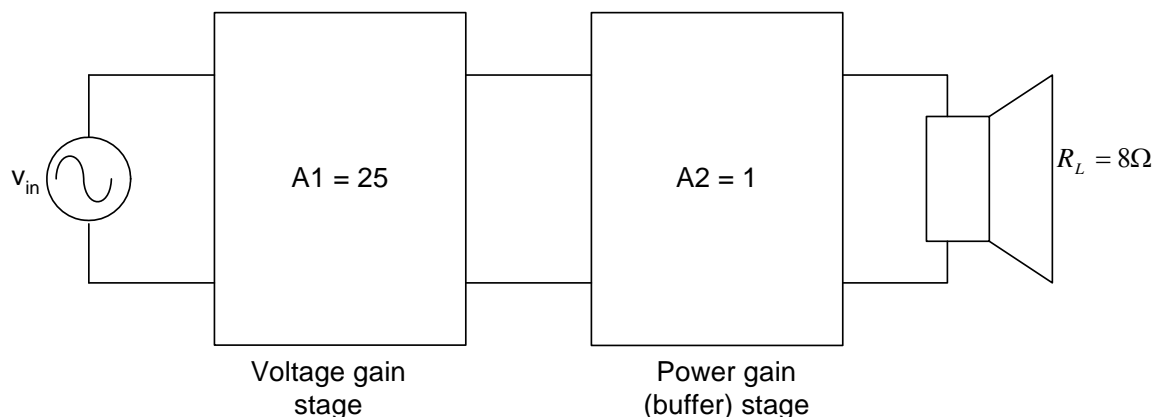
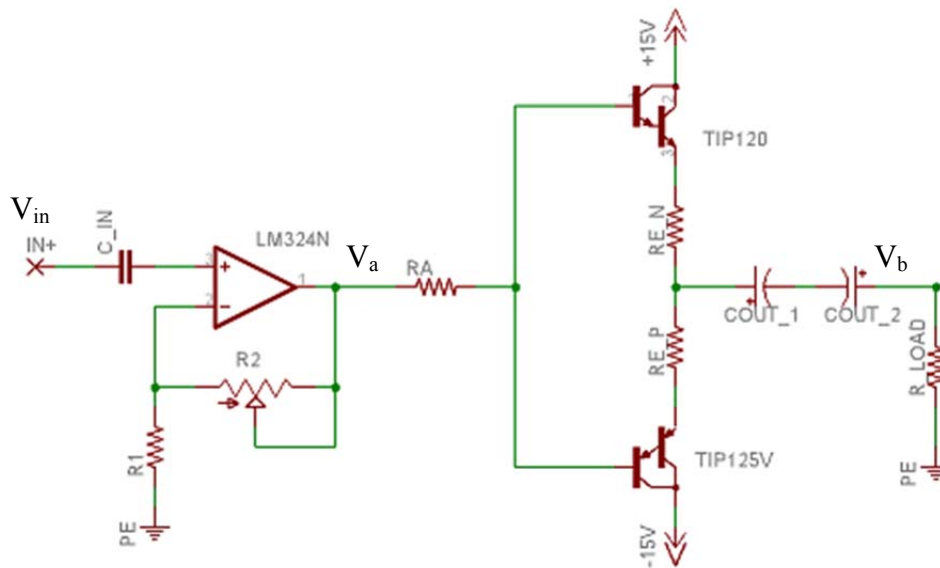

Figure 1: Two-stage audio amplifier
Figure 3: Class B audio amplifier operating open-loop
In conclusion both voltage amplification and power amplification are needed. Typically a multiple-stage amplifier is used. Figure 1 shows a voltage gain stage followed by a power gain stage, which acts as a buffer and provides power to the loudspeaker. Whereas the first stage delivers little output power and can be easily implemented using an OPAMP, the second stage delivers significant output power.
A circuit implementation of the two-stage amplifier of Figure 1 is shown in Figure 3. The input is amplified by an OPAMP in a non-inverting configuration. The gain of this first stage can be adjusted by using trimmer R2. The second stage is a Class B push-pull amplifier using transistors in a Darlington configuration. The Darlington configuration utilizes two transistors feeding each other. This has the effect of increasing the overall current gain at the expense of a larger ( $\sim 1.2V$ ) base-emitter voltage drop. Notice that both the input and the output are AC coupled through capacitors. When using a loudspeaker as a load, it is desirable to apply a purely AC signal, because a DC bias may cause the loudspeaker to fail. In the output a rather large capacitor is needed to obtain a cutoff frequency below 20Hz, which is the lower end of the audible frequency range. Two back-to-back electrolytic capacitors are used to avoid reverse-biasing of the polarized capacitors. Emitter resistors RE\_N and RE\_P are used to limit the output current and to stabilize the bias point against thermal drifts.
1. Construct the circuit shown in Figure 3, which consists of a non-inverting voltage amplifier cascaded with a Class B push-pull emitter follower. A power resistor will be used as a load.